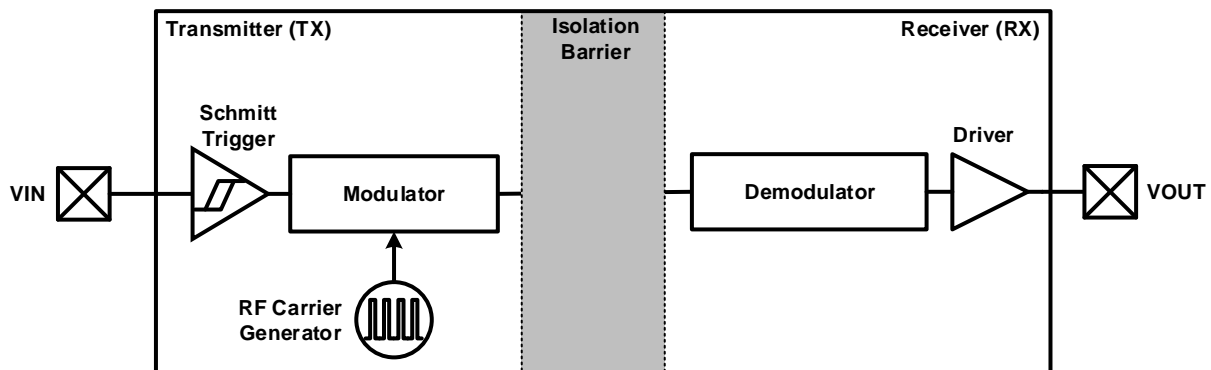
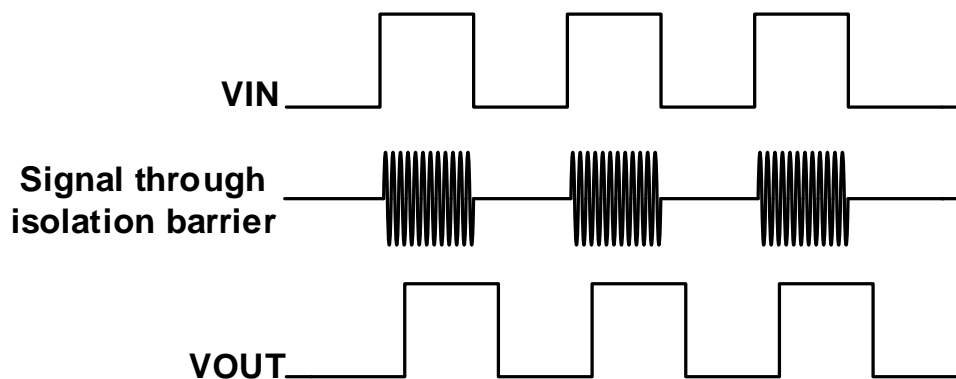

Figure 8-1 Functional Block Diagram of a Single Channel
Figure 8-2 Conceptual Operation Waveforms of a Single Channel
The CA-IS37xx family of devices use a simple ON-OFF keying (OOK) modulation scheme to transmit signal across the SiO2 isolation capacitors that provide a robust insulation between two different voltage domain and act as a high frequency signal path between the input and the output. The transmitter (TX) modulates the input signal onto the carrier frequency, that is, TX delivers high frequency signal across the isolation barrier in one input state and delivers no signal across the barrier in the other input state. Then the receiver rebuilds the input signal according to the detected in-band energy. This simple architecture offers a robust isolated data path and requires no special considerations or initialization at start-up. The capacitor-based signal path is fully differential to maximize noise immunity, which is also known as common-mode transient immunity. Advanced circuitry techniques are applied for better EMI introduced by the carrier signal and IO switching. The capacitively-coupled architecture provides much higher electromagnetic immunity compared to the inductively-coupled one. And OOK modulation scheme eliminates the missing-pulse error that occurs in the pulse modulation method. A simplified functional block diagram and conceptual operation waveforms of a single channel is shown in Figure 8-1 and Figure 8-2.